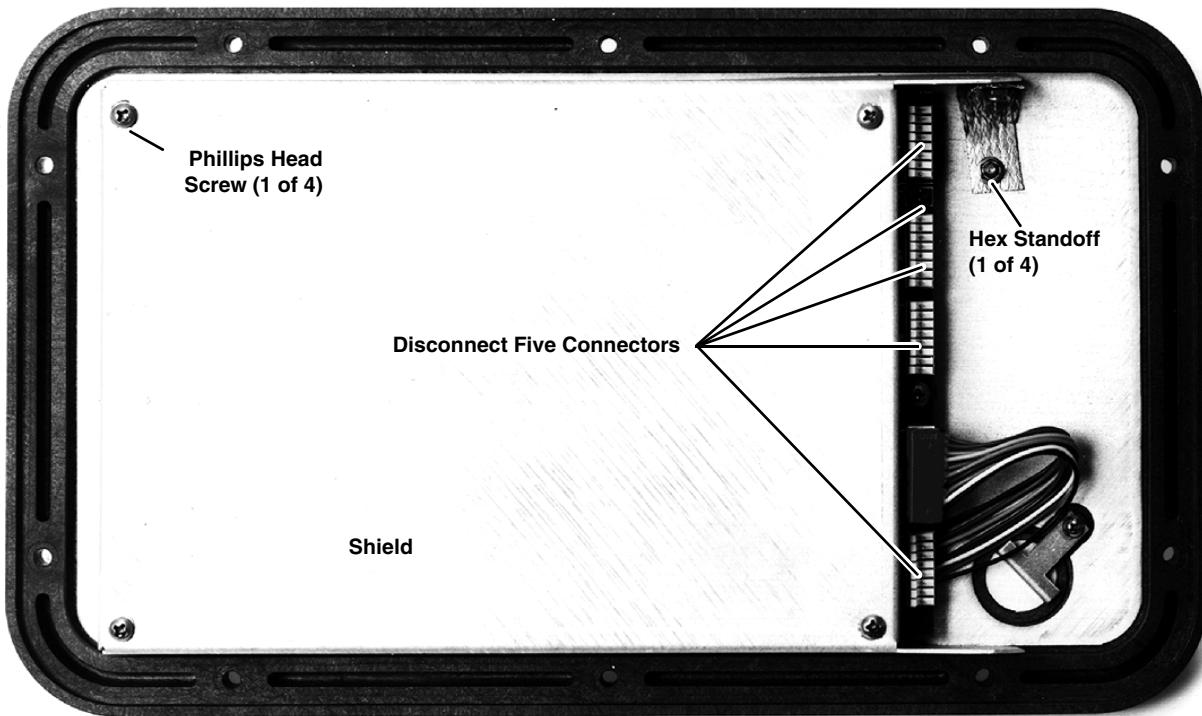

Figure 6-8 Underside of the Control Box Cover
2. Lift the cover and frame off the control box and turn the cover over, as shown in Figure 6-8.
3. The control box cover assembly may be disconnected from the control box lower section by disconnecting the five connectors (see Figure 6-8) and the grounding strap (see Figure 5-4, on page 5-10).